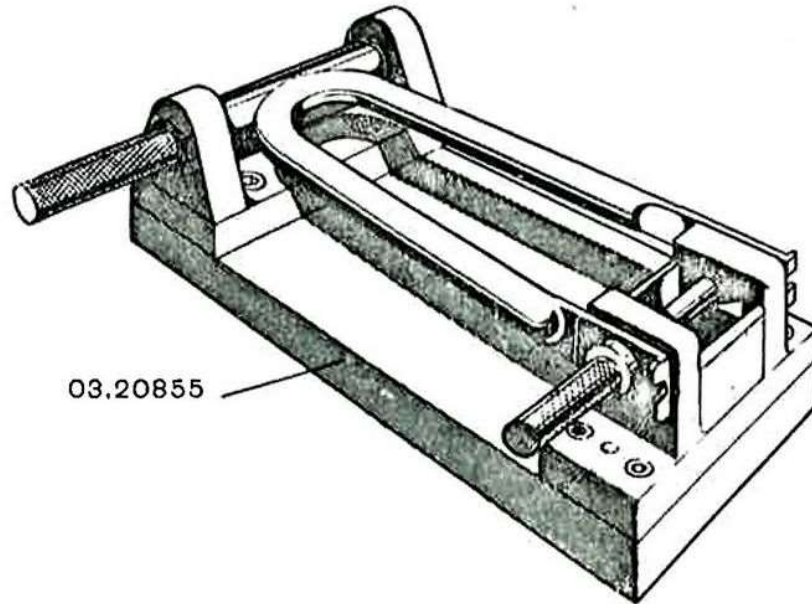

Fig. 114 - Template for checking the rear fork.
1) For the truing of the rear fork, apply the same rules as used for the truing of the frame (Fig. 114).